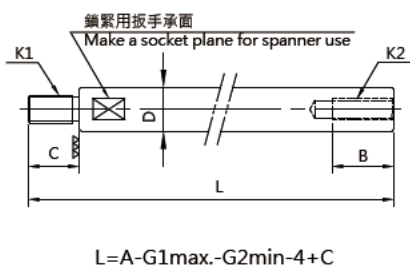
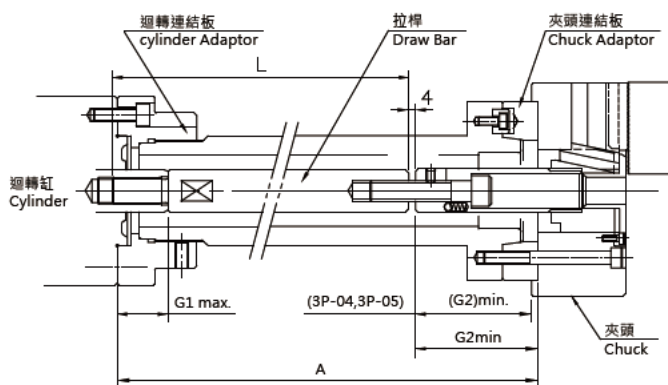

Fig.4 拉桿詳圖 Detail of Draw Bar
Fig.5 拉桿的安裝 Mounting of Draw Bar
- Reference Fig4, Fig5 determine the length of draw bar.